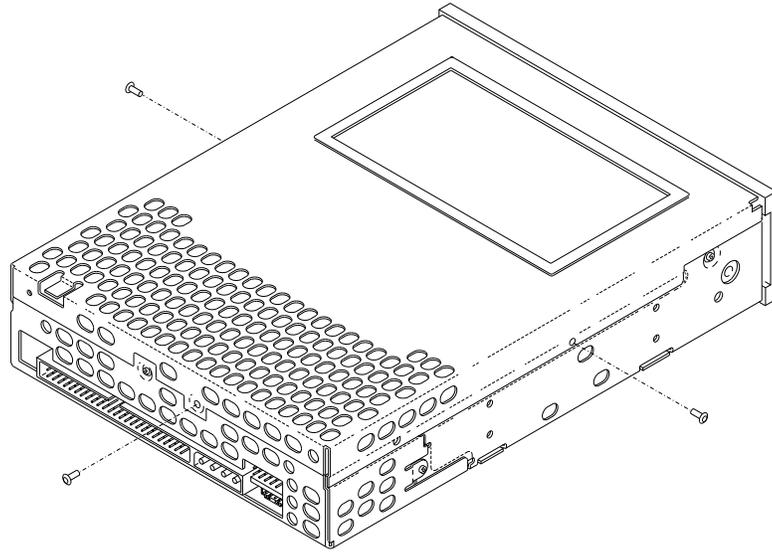

Figure 1 Removing the top cover
1. Using a T-6 screwdriver, remove the two side screws and one rear screw that attach the top cover to the tape drive (see Figure 1).